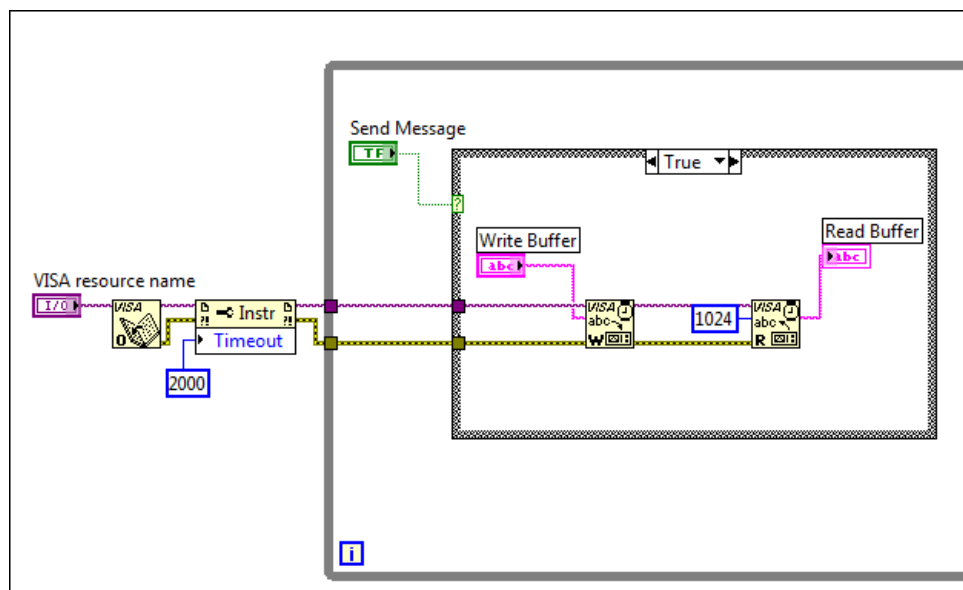

Figure 4. Case Structure Code
9. Wire the VISA resource name terminals and error terminals as shown in Figure 4.